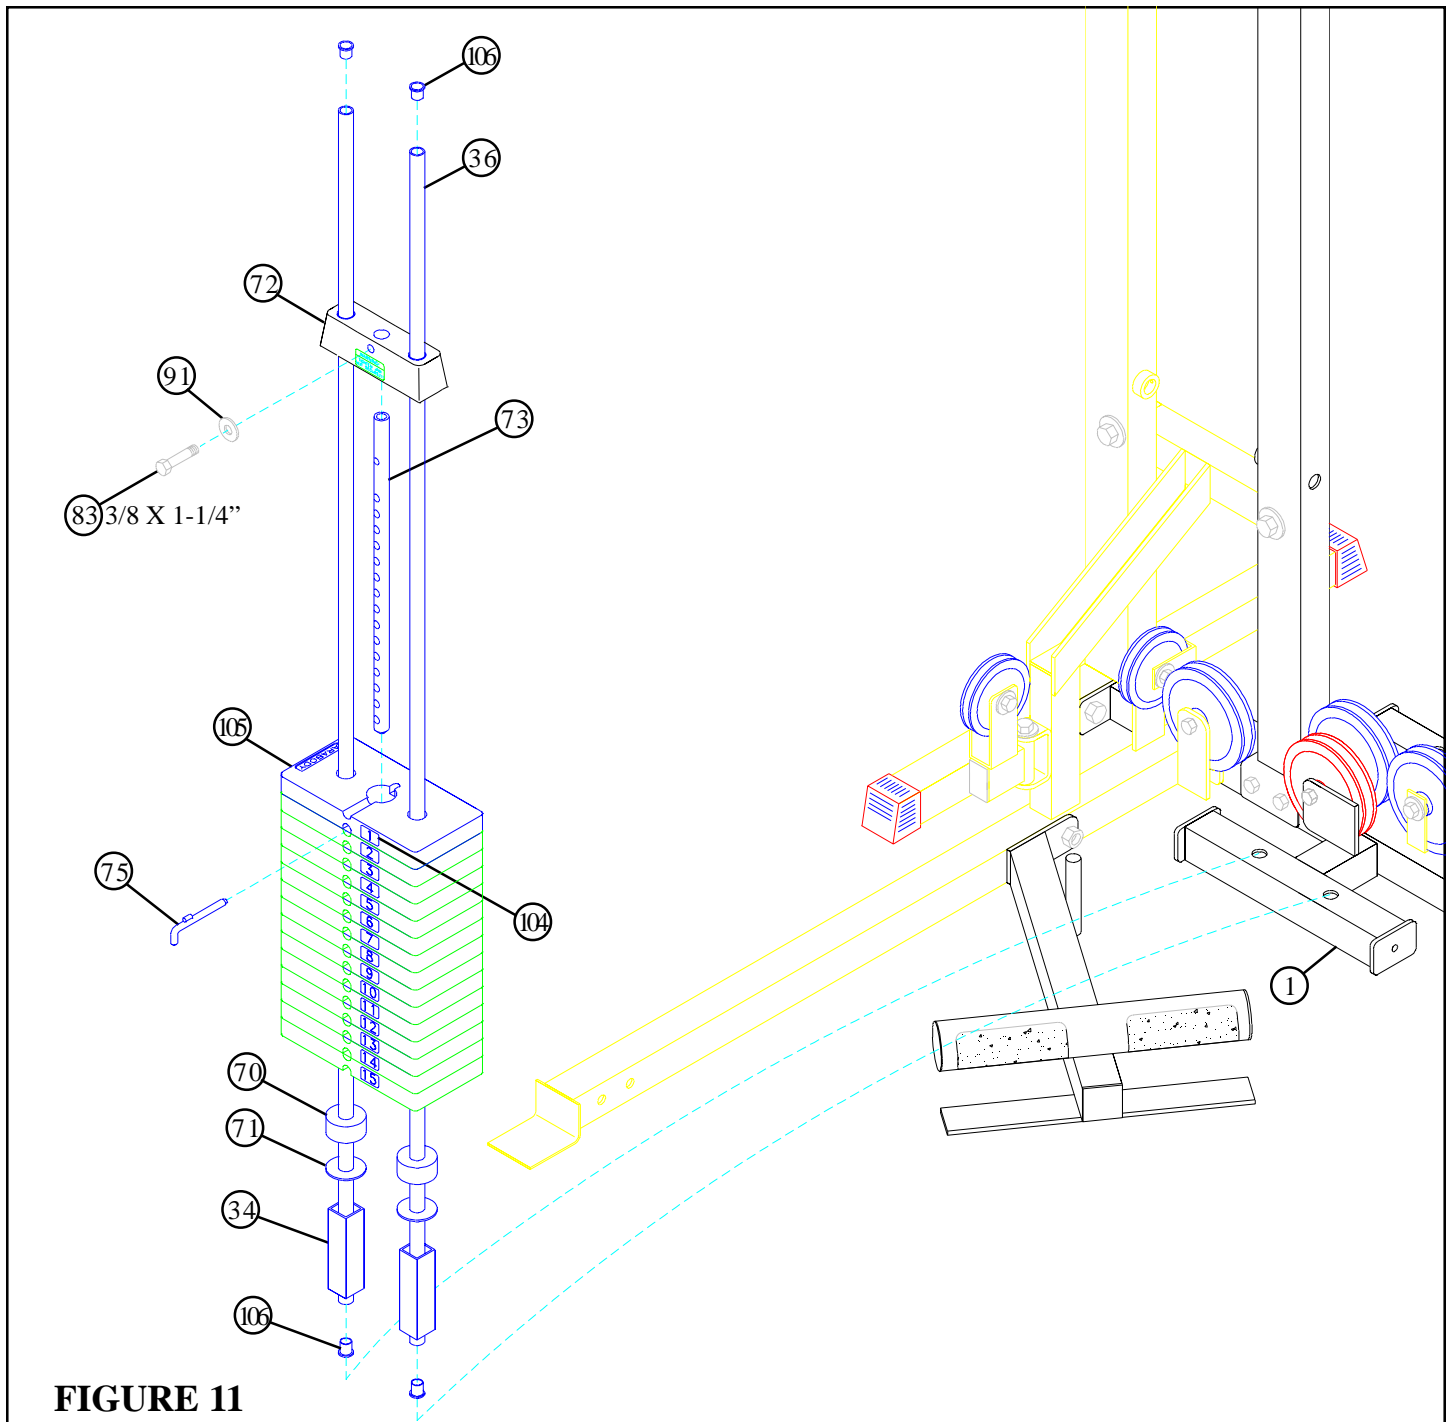

FIGURE 11
- **SECURELY** assemble the SELECTOR SHAFT (73) to the HEAD PLATE (72) using one 3/8 X 1-1/4" BOLT (83) and one 3/8" WASHER (91).
- Insert two GUIDE RODS (36) into the BASE (1) as shown on FIGURE 11. (**NOTE: Lubricate GUIDE RODS (36) with silicon or teflon spray available at most hardware stores.**)
- Slide two 1-1/4 SQ. X 4-7/8" TUBES (34), two 3/4" WASHERS (71), and two WEIGHT STACK CUSHIONS (70) - **IN THAT ORDER** - down over the GUIDE RODS (36).
- Using **EXTREME CARE** slide all fifteen WEIGHT PLATES (105) down over the GUIDE RODS (36) on to the WEIGHT STACK CUSHIONS (70). Make sure that the keyholes of the WEIGHT PLATES (105) are all facing the right way.
- Slide the head plate assembly down over the GUIDE RODS (36) onto the weight stack.
- Insert four CAP PLUGS (106) into the top and bottom ends of the GUIDE RODS (36) as shown in FIGURE 11.
- Attach the WEIGHT STACK LABELS (104) to the weight stack. Also insert the WEIGHT STACK PIN (75) into the first WEIGHT PLATE (105) of the weight stack.